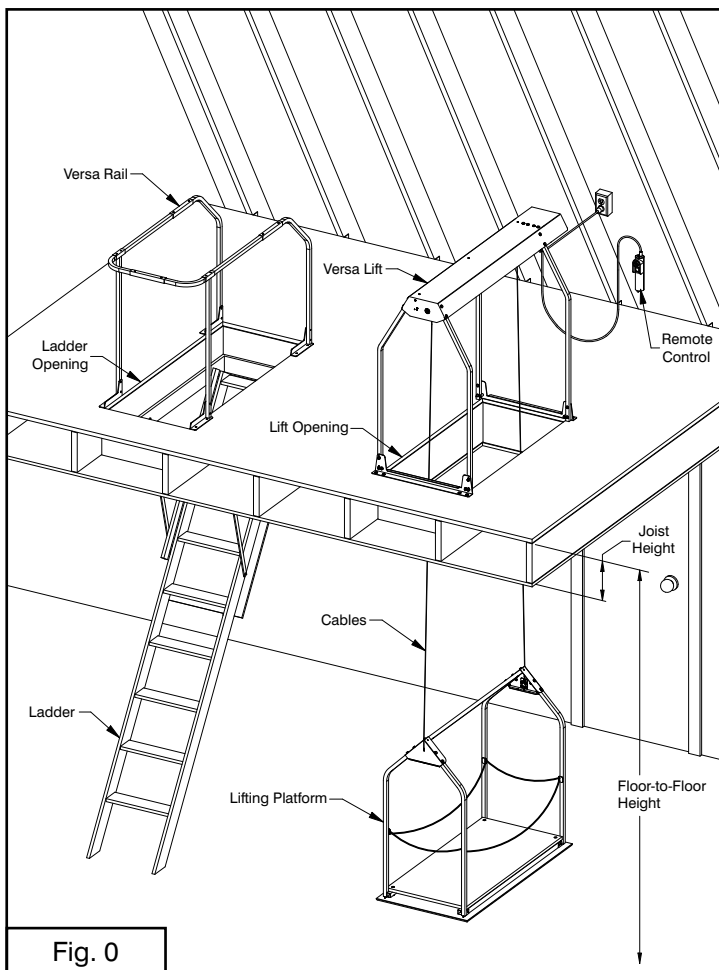

Fig. 0
**⚠ WARNING** The ladder opening and lift opening present falling hazards to any person who enters the attic. When you are in the attic space, be alert at all times to these openings. *We highly recommend you install a safety railing around your ladder opening, such as the Versa Rail by BPG\* (see Fig. 0).*